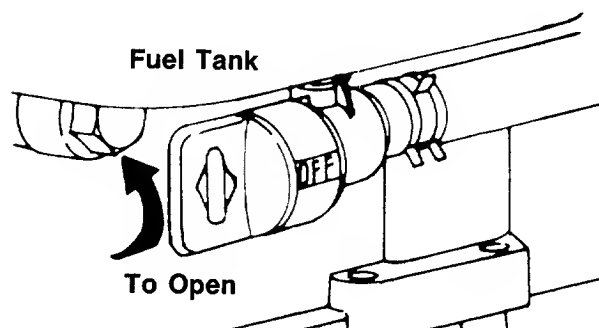

FIGURE 14.—Model 506R
2. **Model 506R only:** Open fuel shut-off valve. See figure 14.